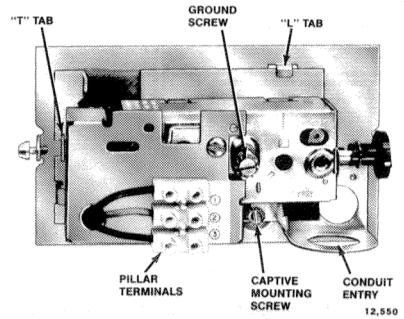
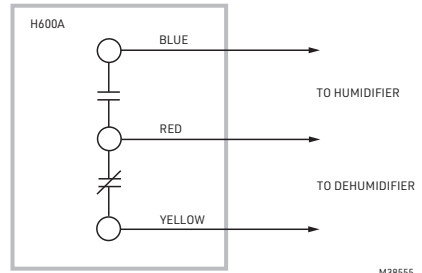

Fig. 2. Cover removed.
Fig. 5. H600A Wiring Diagram. Connect red and blue leadwires to humidifier, or red and yellow leadwires to dehumidifier.
2. Remove the backplate from the control assembly by loosening the captive mounting screw and sliding the control down and to the right (See Figures 2 and 3).
4. Attach control to backplate by slipping it under tabs and tightening the captive mounting screw (See Figure 2).
5. Connect wires as shown in Figure 5.
Insert wiring through hole in back plate or through conduit entry (see Figure 2). If conduit entry is not used, hole must be closed with the rubber plug provided. If the hole in the mounting plate is exposed to an opening in the wall, plug the opening to prevent drafts from affecting the humidistat operation. Connect wires as shown in Figure 5.